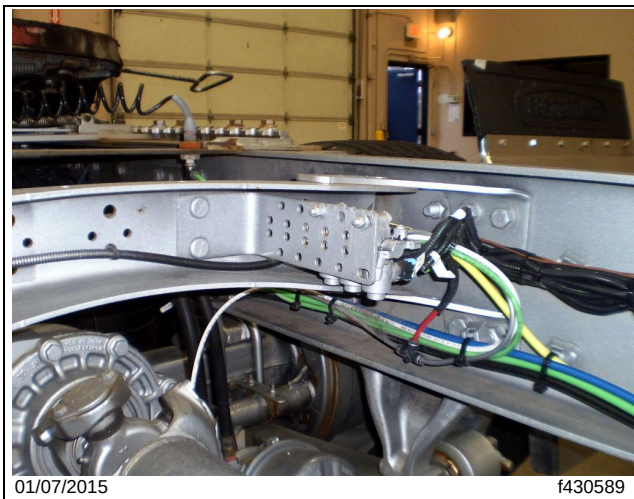
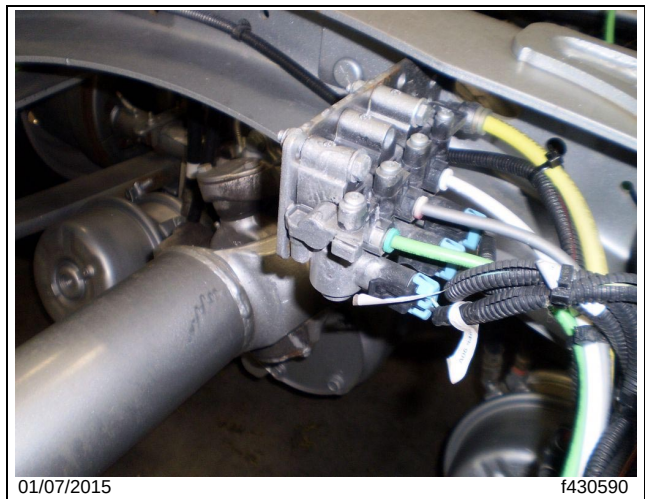

Fig. 1, Bracket View (typical)
Fig. 2, Valve Assembly Side View (typical)
3. If needed, use EZWiring to locate the auto-park-brake solenoid valve. Refer to **Fig. 1** and **Fig. 2** for views of a typical installation.